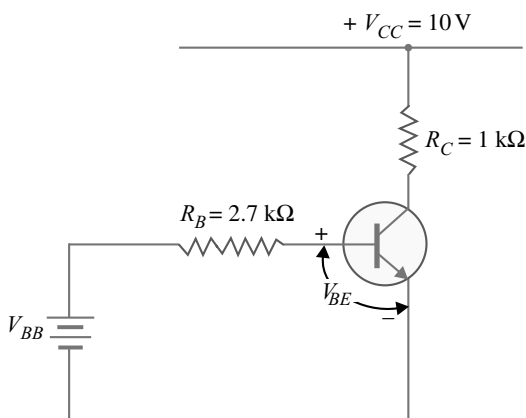

Fig. 16.12
**Example 16.5.** Fig. 16.12 shows the transistor switching circuit. Given that  $R_B = 2.7\text{ k}\Omega$ ,  $V_{BB} = 2\text{ V}$ ,  $V_{BE} = 0.7\text{ V}$  and  $V_{knee} = 0.7\text{ V}$ .